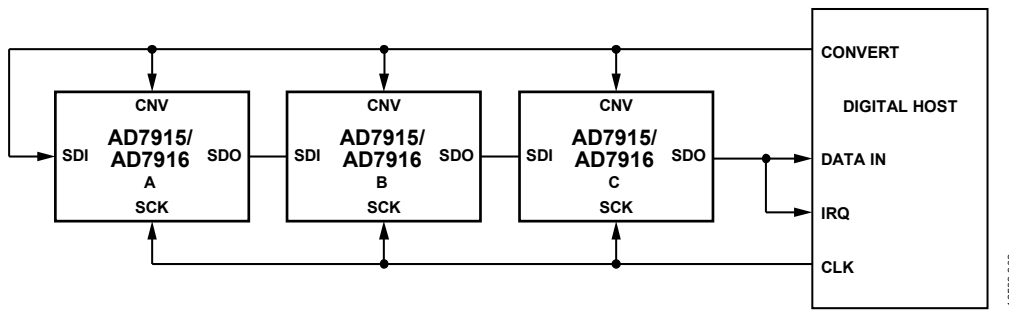
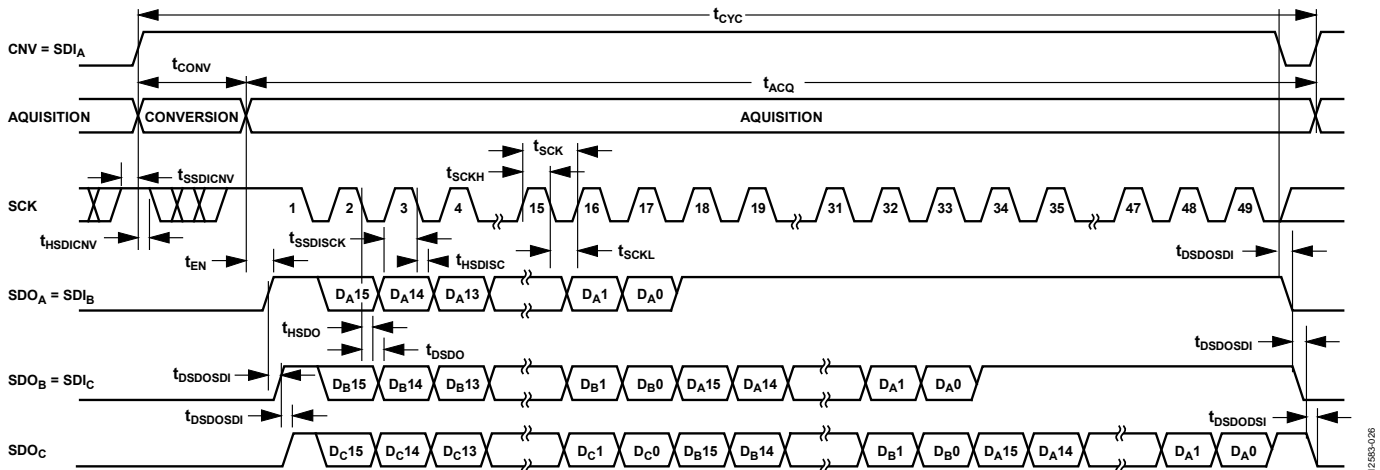

Figure 45. Chain Mode with Busy Indicator Connection Diagram
Figure 46. Chain Mode with Busy Indicator Serial Interface Timing
- in chain mode if $\overline{\text{SCK}}$ is high during the CNV rising edge (see Figure 46).
A connection diagram example using three AD7915/AD7916 devices is shown in Figure 45, and the corresponding timing is given in Figure 46.
completed their conversions, the SDO pin of the ADC closest to the digital host (see the AD7915/AD7916 ADC labeled C in Figure 45) is driven high. This transition on SDO can be used as a busy indicator to trigger the data readback controlled by the digital host. The AD7915/AD7916 then enter the acquisition phase and powers down. The data bits stored in the internal shift register are clocked out, MSB first, by subsequent SCK falling edges. For each ADC, SDI feeds the input of the internal shift register and is clocked by the SCK falling edge. Each ADC in the chain outputs its data MSB first, and $16 \times N + 1$ clocks are required to readback the N ADCs. Although the rising edge can be used to capture the data, a digital host using the SCK falling edge allows a faster reading rate and, consequently, more AD7915/AD7916 devices in the chain, provided that the digital host has an acceptable hold time.